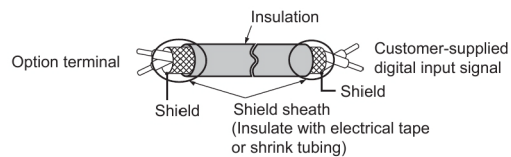
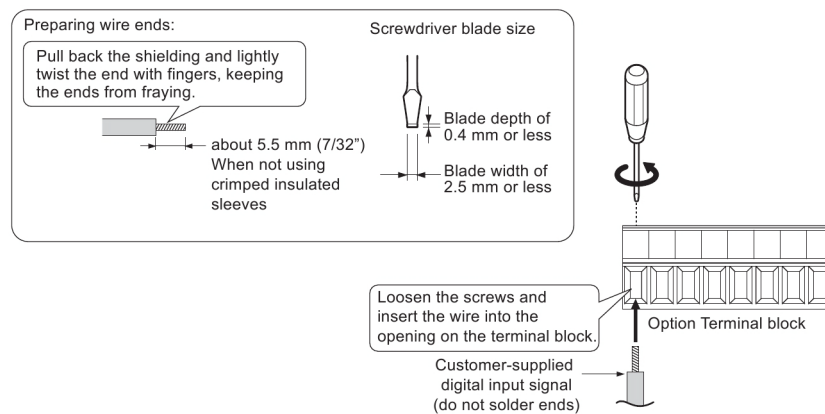

Figure 6: Preparing Ends of Shielded Cable
Figure 7: Preparing and Connecting Cable Wiring
3. Prepare and connect the wire ends as shown in Figure 6 and Figure 7. Refer to Wire Gauges, Tightening Torques, and Crimp Terminals on page 17 to confirm that the proper tightening torque is applied to each terminal. Take particular precaution to ensure that each wire is properly connected and wire insulation is not accidentally pinched into electrical terminals.